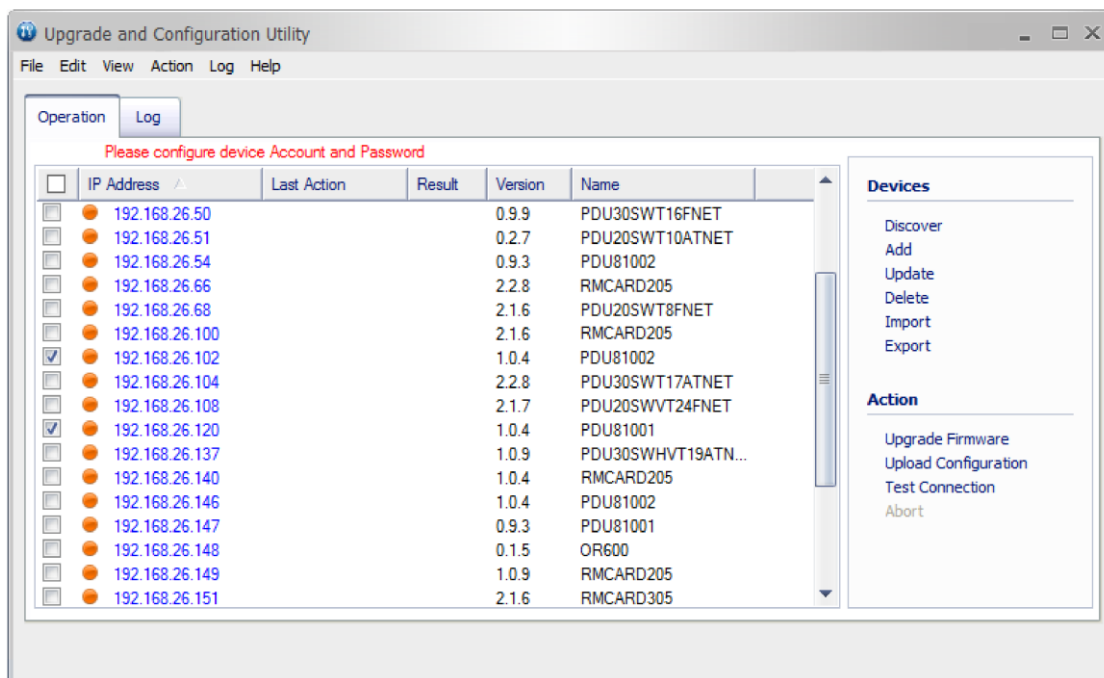

Figure 2
4. Check the checkbox to select devices you wish to upgrade (shown in Figure 2.).